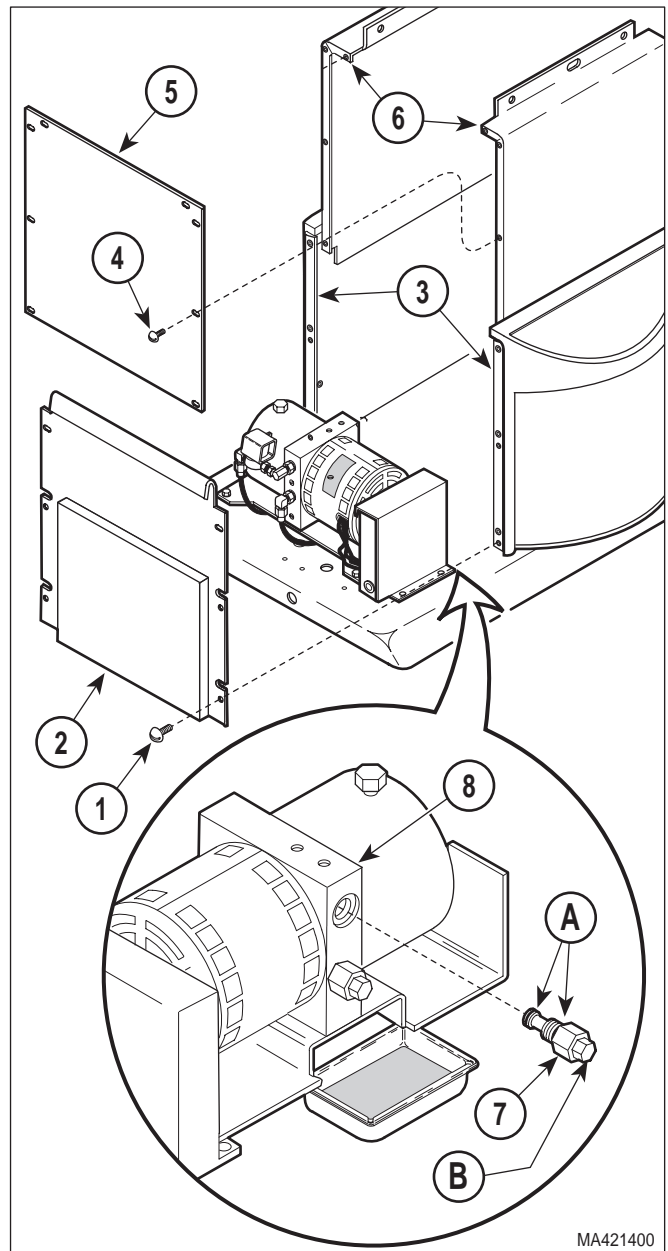

Figure 4-7. Down Functions Relief Valve Removal / Installation
- (1) Unplug power cord from wall outlet.
- (2) Remove motor cover assembly (Refer to para 4.2).
- (3) Remove four screws (1, Figure 4-7) and back outer shroud (2) from left and right hand outer shrouds (3).